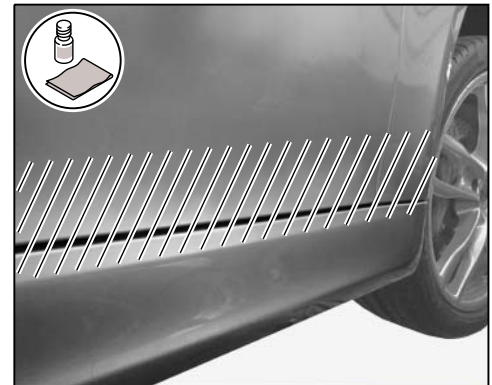

Figure 3
- 2.1 Clean dust and grease off the installation area for the logos ⇒ *Figure 3* on the vehicle using isopropanol.